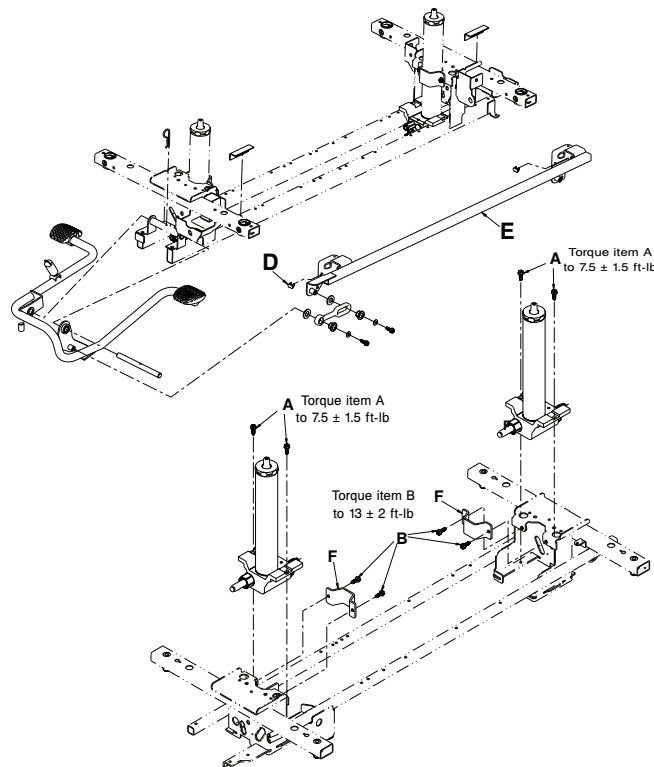

Figure 12 – Replace the jack
4. Using a 1/2" socket with a 3/8" drive extension and a 3/8" drive ratchet, remove the two hex washer head screws (B) that secure the jack and reservoir clamp (F) to the base weldment (Figure 12). Remove the jack and reservoir clamp. Save all parts.